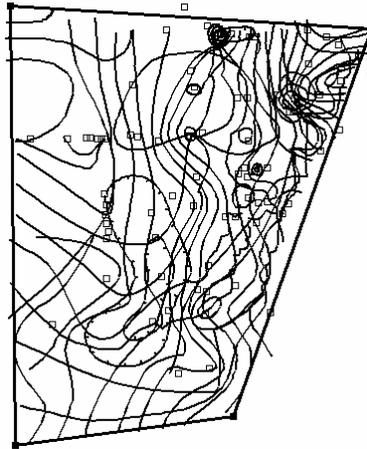

Figure 52. Domain outline for Biscayne Bay aquifer model.
18. The next step is to draw a domain outline around the area to be modeled. Select **Object|Show or Hide Objects...** Check the checkbox next to **All Objects** so that all objects are visible. Select **Object|Create Polygon** and draw a polygon on the top view of the model that roughly surrounds all the objects (fig. 52). In the **Object Properties** dialog box, set the **Name** to “Domain_Outline“, check **Use to set grid element size** and set the **Grid element size** to 2500. Click **OK** to close the **Object Properties** dialog box. It is no longer necessary to see the imported objects so in the **Show or Hide Objects** dialog box, uncheck the checkbox next to **Data Sets** to hide them all. (It may be necessary to display the **Show or Hide Objects** dialog box if it is hidden behind the main GoPhast window.)